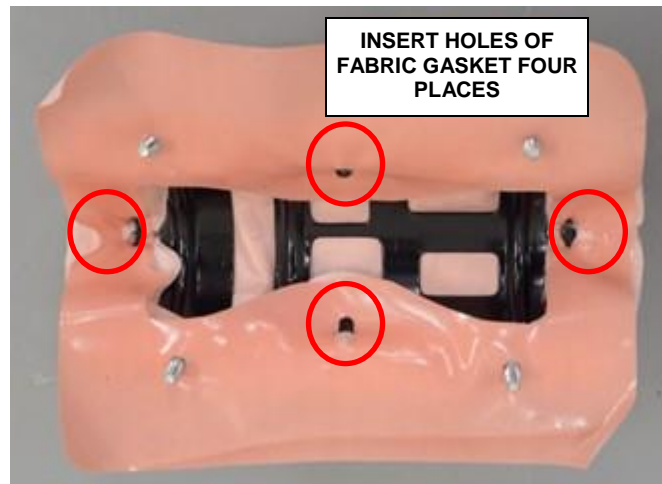

Figure 125 – Fabric Gasket
- j. With the help of a trim tool insert the holes of fabric gasket, four places (Figure 125).